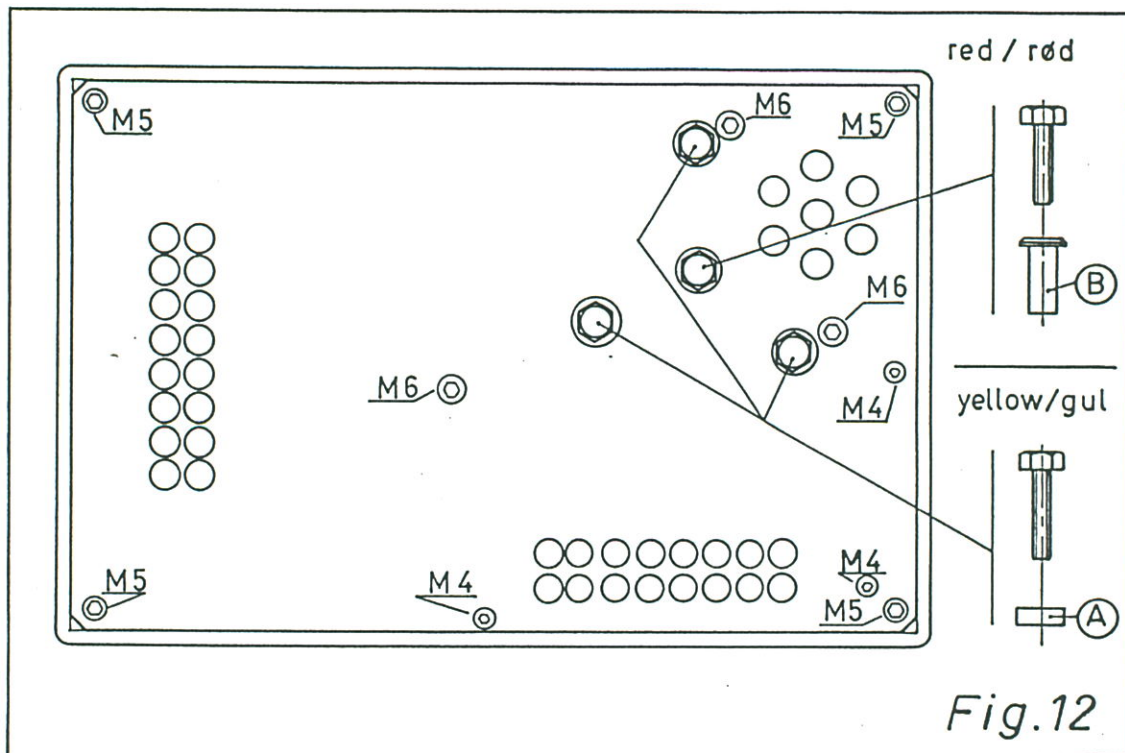

Fig.12
see: front page (H) and fig.12.
- .4 Remount the sideplates using the screws (A).